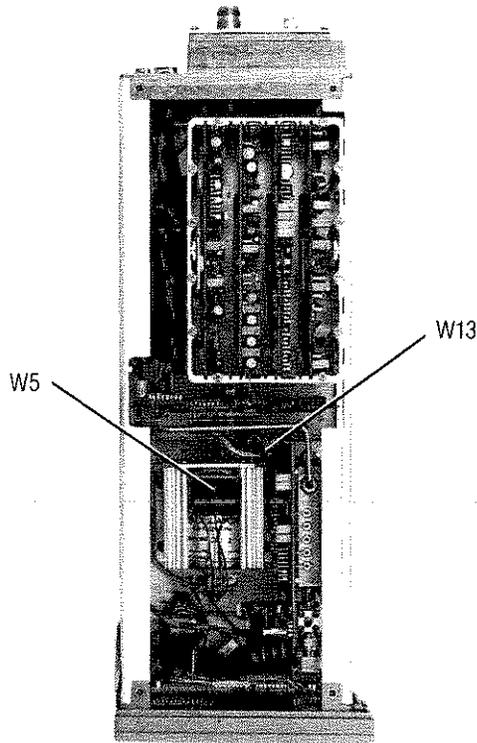

Figure 5-2. Location of YO Wiring Harnesses (W5 and W13)
2. Turn AC line power off. Refer to Figure 5-2 and disconnect the YO wiring harness (W5) and the Doubler wiring harness (W13). Return AC line power to the instrument.